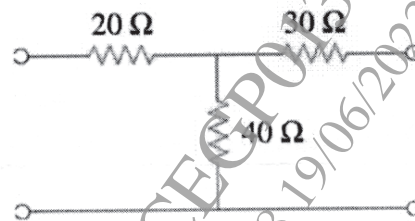

Fig. 1
- b) Determine the z parameters for the circuit shown in Fig. 1. [6]